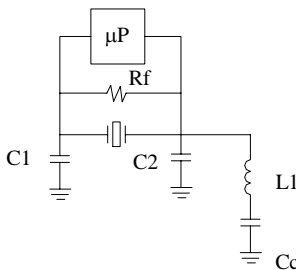

Figure 11
- The L_1/C_c and C_2 components form a parallel resonant circuit at a frequency about half-way between the fundamental and third-overtone frequency. This condition makes the circuit capacitive at the third-overtone frequency, which favors the oscillation at the desired overtone mode. See figure 11.